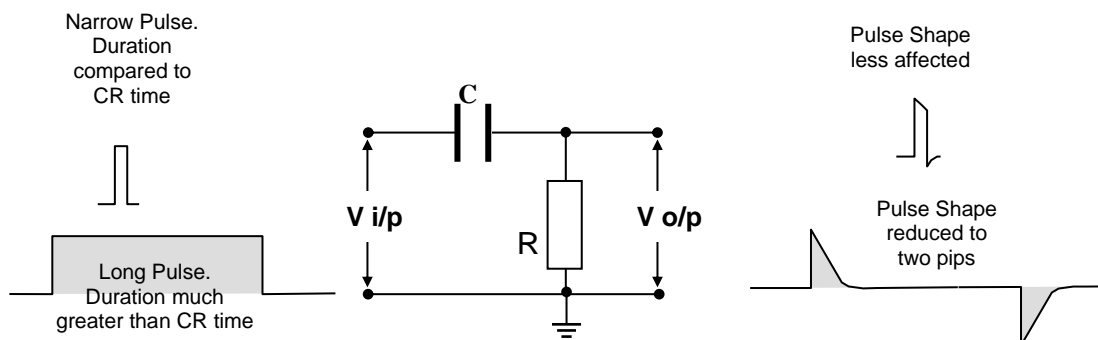

Figure 5 – Short CR Time Differentiating Circuit
39. 'Short CR Time' Differentiating Circuit. (Refer Figure 5).